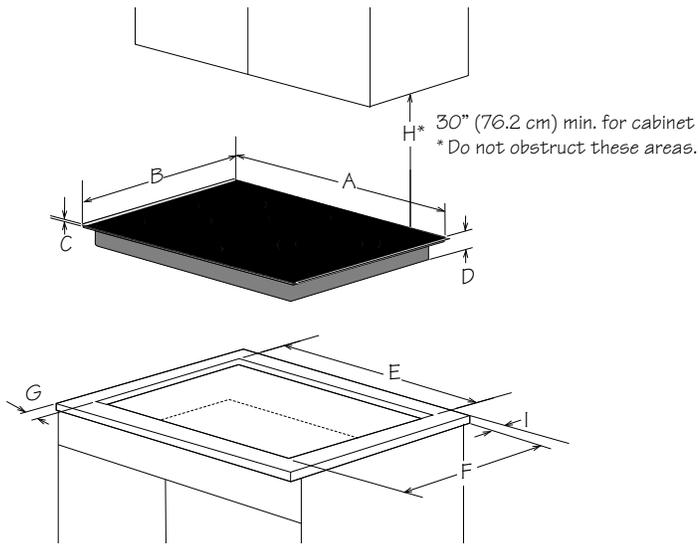

Figure 4
- Check location where the cooktop will be installed for proper electrical supply. Approximate location of junction box, min 12" (304.8 mm) below the cooktop. See Figure 4.
## COOKTOP AND CUTOUT DIMENSIONS (See Figure 4)